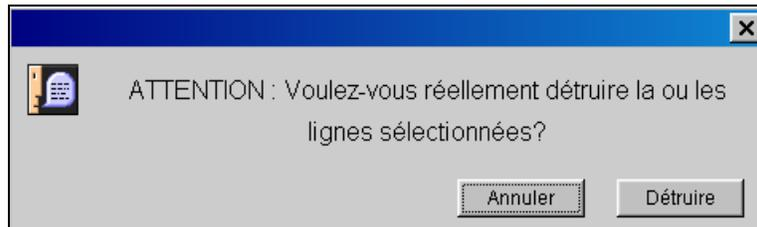

Figure 4: Deleting a part number
- In the Current Part Numbers list, click on the lines to be deleted, then click on the **Delete** button. A dialogue box appears (figure 4).